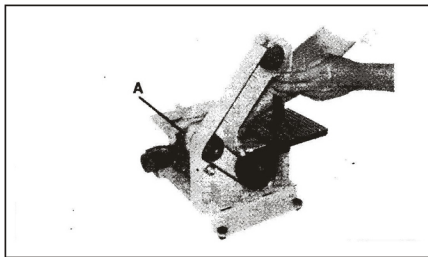

Figure 4
2. Pull the tracking knob (A) towards the front of the unit to release the belt tension. (As shown in **Figure 4**). While holding the tension knob, remove the belt from the three wheels.